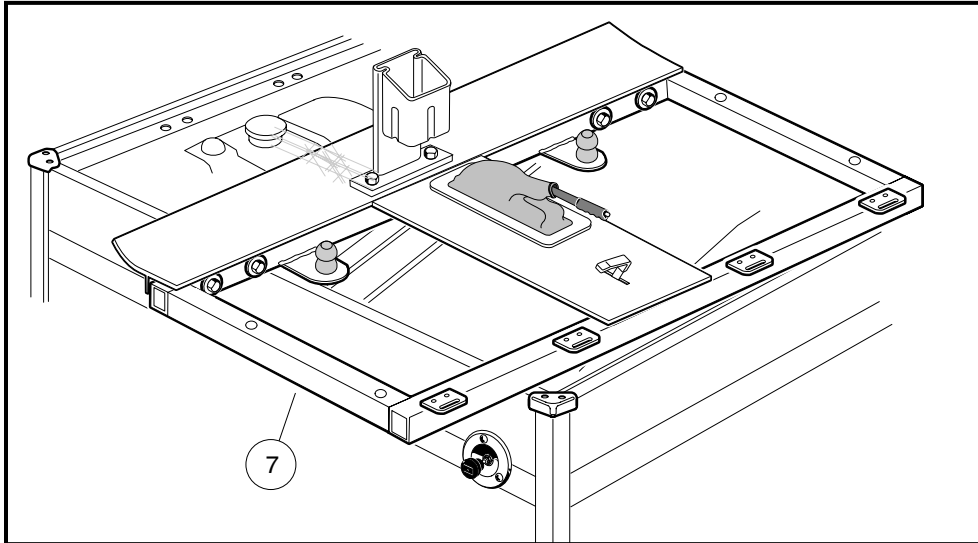

Figure 14-19 Fuel Tank Removal
8. Carefully remove and rotate the seat support (7) 90° clockwise and allow it to rest on the vehicle body as illustrated (**Figure 14-19, Page 14-28**). **See following NOTE.**
3. Return the seat support (1) to its original position by rotating it 90° counterclockwise (**Figure 14-19, Page 14-28**) and install the seat support and armrests. Tighten bolts (8) to 13 ft-lb (17.6 N·m). **See Figure 4-3, Section 4, Page 4-10.**